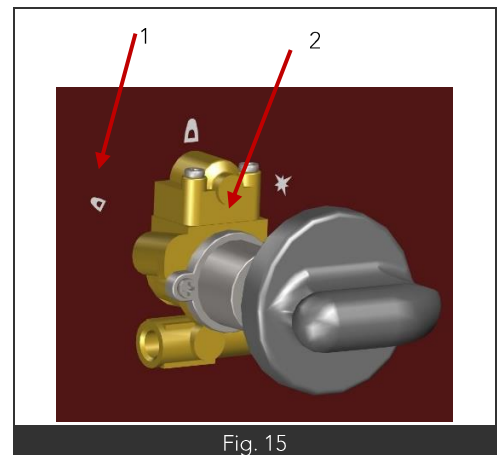

Fig. 15
- Set it to the low output position (Fig15. Item 1)
- Tighten the low output screw (Fig.15 Item 2) + or – to reduce the flame by 2/3.